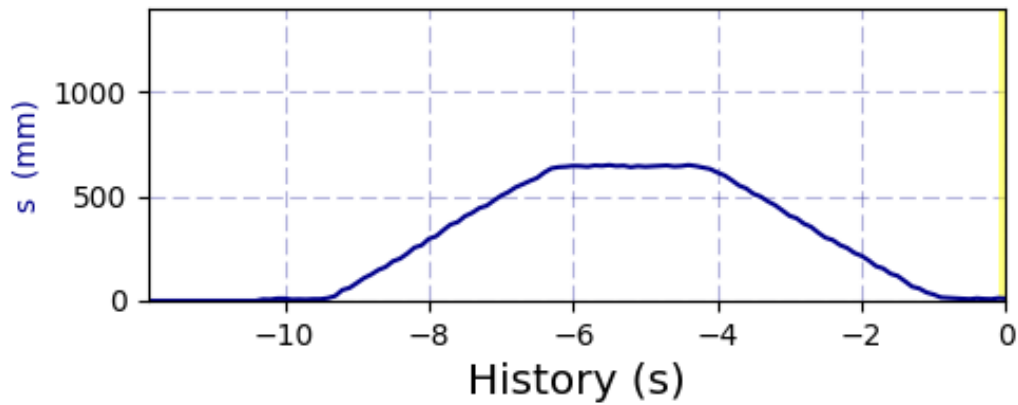
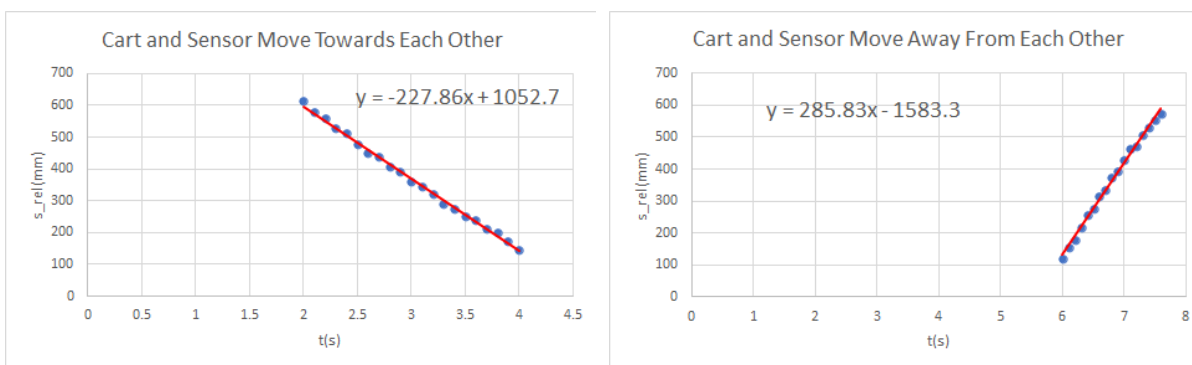

Figure 6. Position vs. time graph of the Cart moving away from, as well as moving towards the Motion Sensor set at rest.
Figure 9. Best Fit Line and Formula for the Cart’s relative motion to the moving Sensor in opposite direction.
-The Figure 6. shows the position vs. time graph of the Cart in a multistep motion with respect to the Sensor at rest. The average velocity is defined as the rate of change of position with time. Calculate the average velocity of the Cart moving away from the motion Sensor, as well as moving towards the Motion Sensor.
- The relative velocity of the Cart to the moving Sensor is the slope of the line on a position versus time graph, which one can get by selecting the Trendline in the scatter chart of the measured data. By breaking up the time into intervals one can determine the relative velocity  $v_{CS}$  of the Cart to the Sensor in the 1st and 3rd phase, as shown in the Figure 9. Describe a method to determine the velocity of the Sensor, when the Cart’s velocity to the observer at rest is known.
- The average velocity of the Cart to the Sensor at rest  $v_{CR}$  has been calculated according to the graph in the Figure 6. A more accurate value of  $v_{CR} = 209,8 \text{ mm/s}$ , one can obtain from the `motion_cart_senor.csv` file as the slope of the best fit line for the Cart moving away from the Sensor at rest, in the interval from 1.4s to 3.4s. Based on the constant value  $v_{CR} = 209,8 \text{ mm/s}$ , make use of the relative velocity of the Cart to Sensor  $v_{CR}$  in the Figure 9. to calculate the average velocity of the Sensor to the observer R at rest  $v_{SR}$  in the 1st and 3rd phase of the multistep motion.